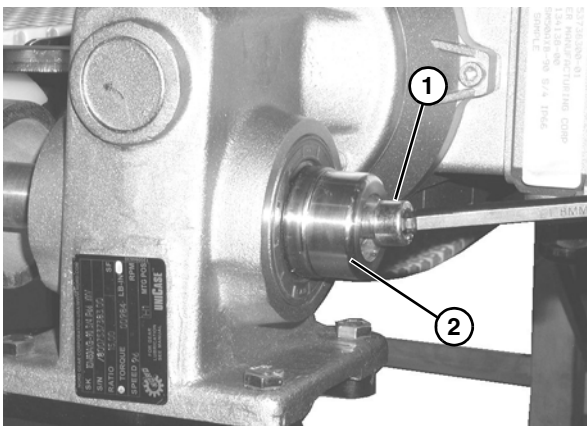

Figure 60
1. Remove the plastic cap on the end of the motor and remove the socket head screw (**Figure 60, item 1**) and the bore plug (**Figure 60, item 2**).